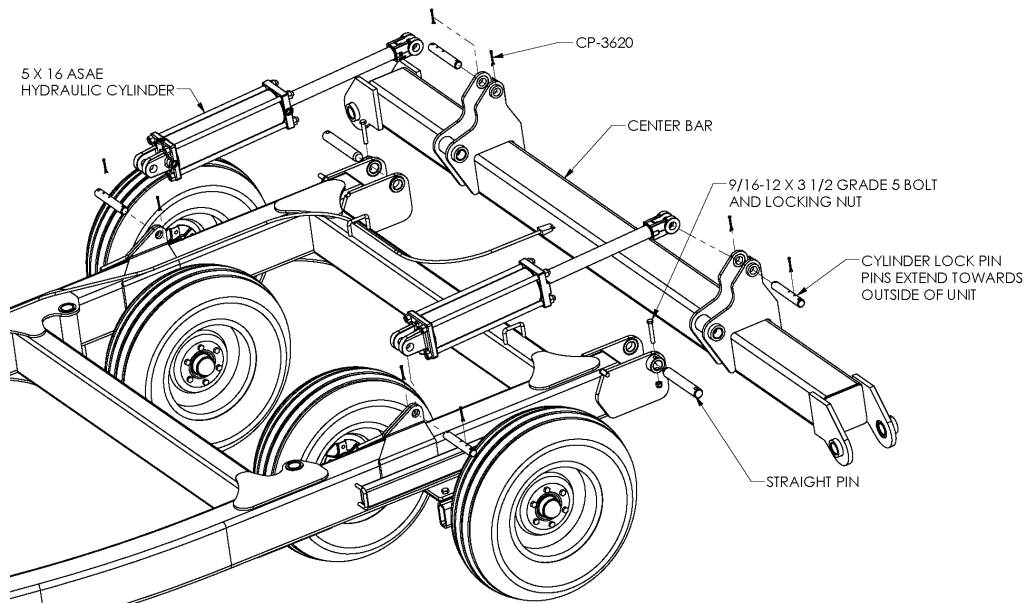

Figure 3
Note: For Dual Axle 14L Tires, it is recommended to pin the lift cylinder to the main frame first (see Figure 3).
1. Attach the center bar to the main frame. Refer to Figure 3. Use the 1 1/2" x 9 5/8" straight pins, 9/16" x 3 1/2" grade 5 bolts, and locking hex nuts.